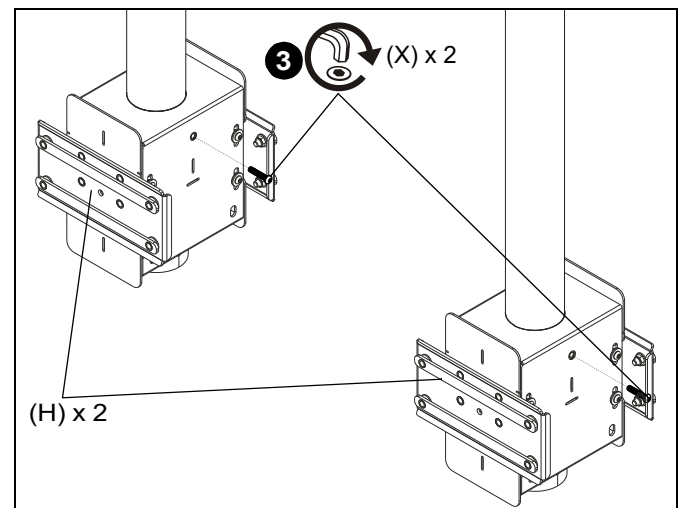

Figure 3
- Install 1/4-20 x 1 1/4" button head cap screws (X) into each mount assembly (H) to prevent column from rattling. (See Figure 3)